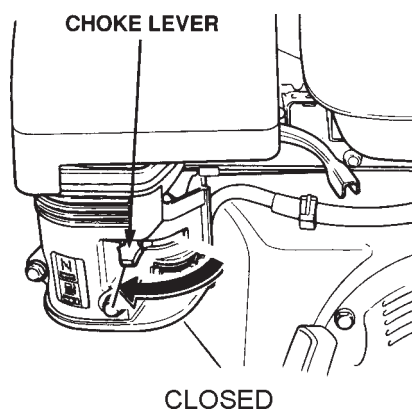

Figure 9. Engine Choke Lever (Closed)
4. Place the *choke lever* (Figure 9) in the "CLOSED" position if starting a *warm engine* or the *temperature is warm*.